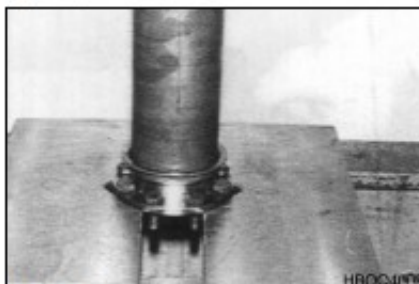

Figure 56
7. Install hex head screws into drive flange and press dust plate over drive flange collar. See Figure 56.